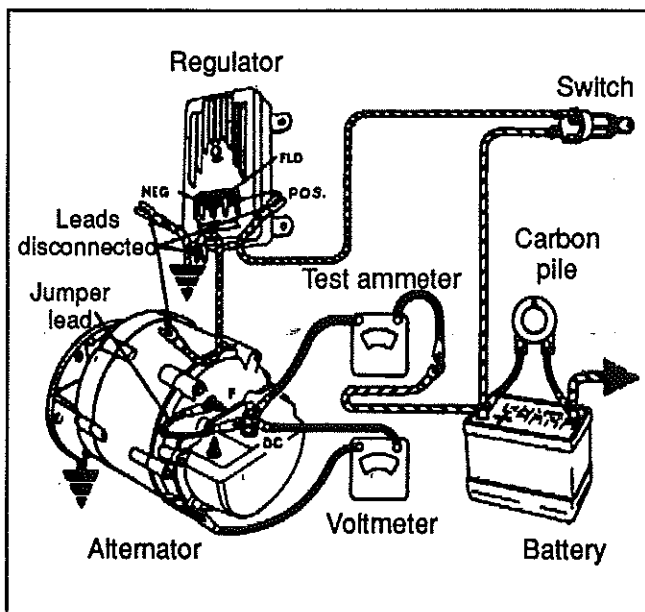

Fig. 34
6. See figure 34 for wiring connections.